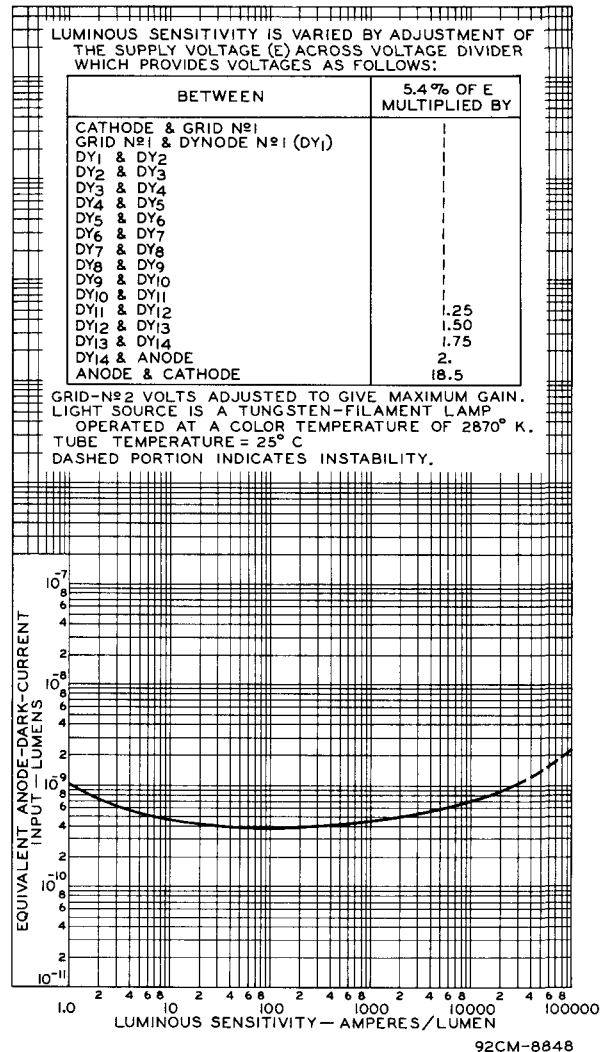
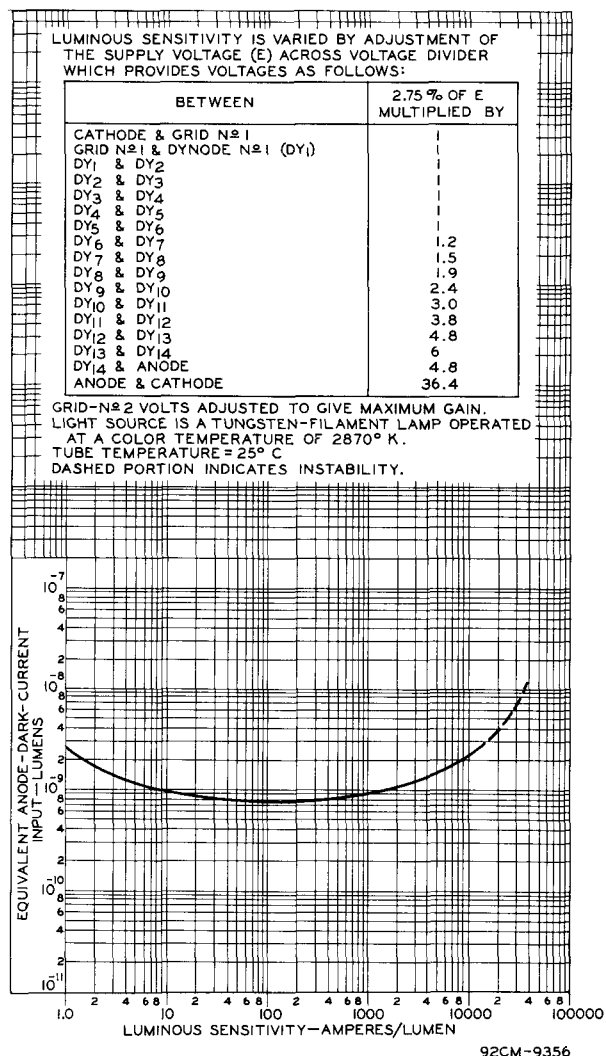

Fig.3 - Typical Anode-Dark-Current Characteristic of Type 7264 Used in Low-Light-Level, Low-Noise, High-Gain Service.
Fig.5 - Typical Anode-Dark-Current Characteristic of Type 7264 Used in High-Output-Pulse Service.
When the application utilizes *continuous luminous excitation and dc anode current*, and it is desired to have a high ratio of signal output to dark current, it is recommended that the operating supply voltage (E) be determined with reference to the curve in Fig. 3 or Fig. 5 which shows the equivalent anode-dark-current input as a function